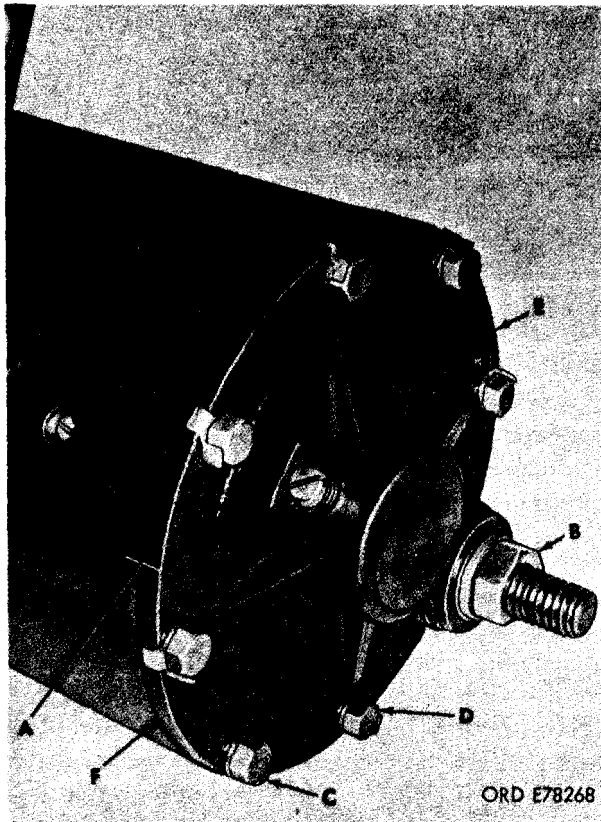

Figure 4-9. Removing or installing commutator end head assembly.
e. Remove Commutator End Head Assembly. Refer to figure 4-9 and remove commutator end head assembly as follows. (A) Scribe a mark on end head and frame to locate relative position at assembly. (B) Remove 1/2-inch hex nut, 1/2-inch lock washer, 1/2-inch flat washer, nonmetallic washer, cap washer, and neoprene washer from terminal stud. (C) Bend tabs of tab washers to free cap screws. (D) Remove